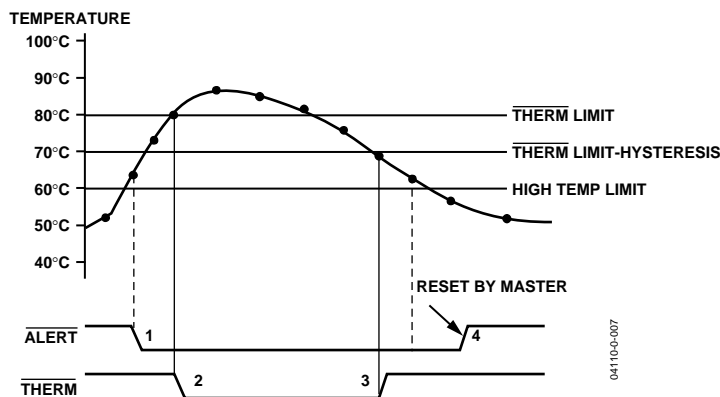

Figure 21. Operation of the  $\overline{\text{ALERT}}$  and  $\overline{\text{THERM}}$  Interrupts
Figure 21 shows how the  $\overline{\text{THERM}}$  and  $\overline{\text{ALERT}}$  outputs operate. A user may choose to use the  $\overline{\text{ALERT}}$  output as an  $\overline{\text{SMBALERT}}$  to signal to the host via the  $\overline{\text{SMBus}}$  that the temperature has risen. The user could use the  $\overline{\text{THERM}}$  output to turn on a fan to cool the system, if the temperature continues to increase. This method would ensure there is a fail-safe mechanism to cool the system without the need for host intervention.
3. The  $\overline{\text{THERM}}$  output deasserts (goes high) when the temperature falls to  $\overline{\text{THERM}}$  limit minus hysteresis. The default hysteresis value of 10°C is shown in Figure 21.